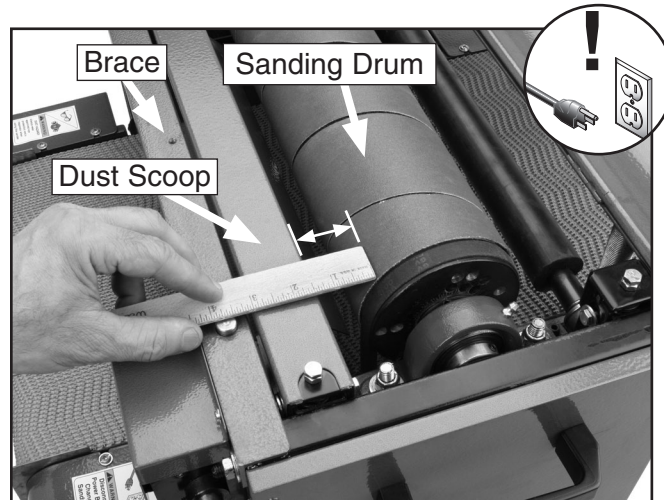

Figure 32. Measuring distance between drum and dust scoop.
2. First measure the distance between the outside of the drum and the inside of the dust scoop (**Figure 32**). The distances should be within $\frac{1}{8}$ " of each other at each end of the drum.